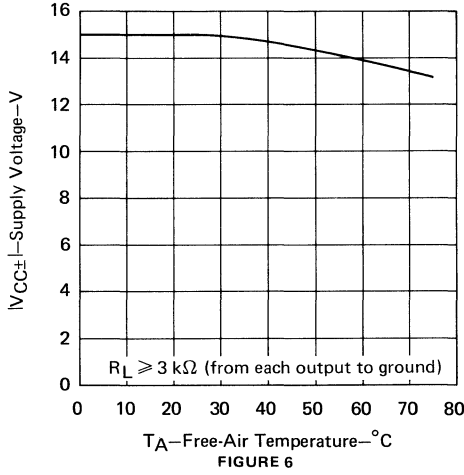

FIGURE 6
2. For operation above 25°C free-air temperature, refer to the Maximum Supply Voltage Curve, Figure 6, and the Dissipation Derating Curves in the Thermal Information Section, which begins on page 18. In the J package, SN75188 chips are glass-mounted.